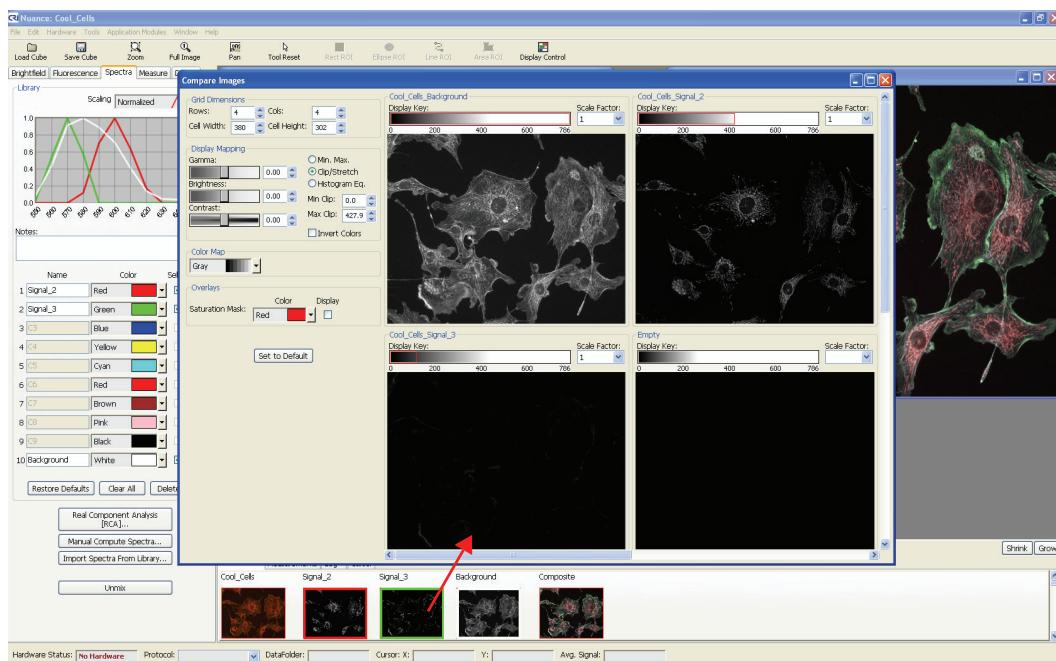
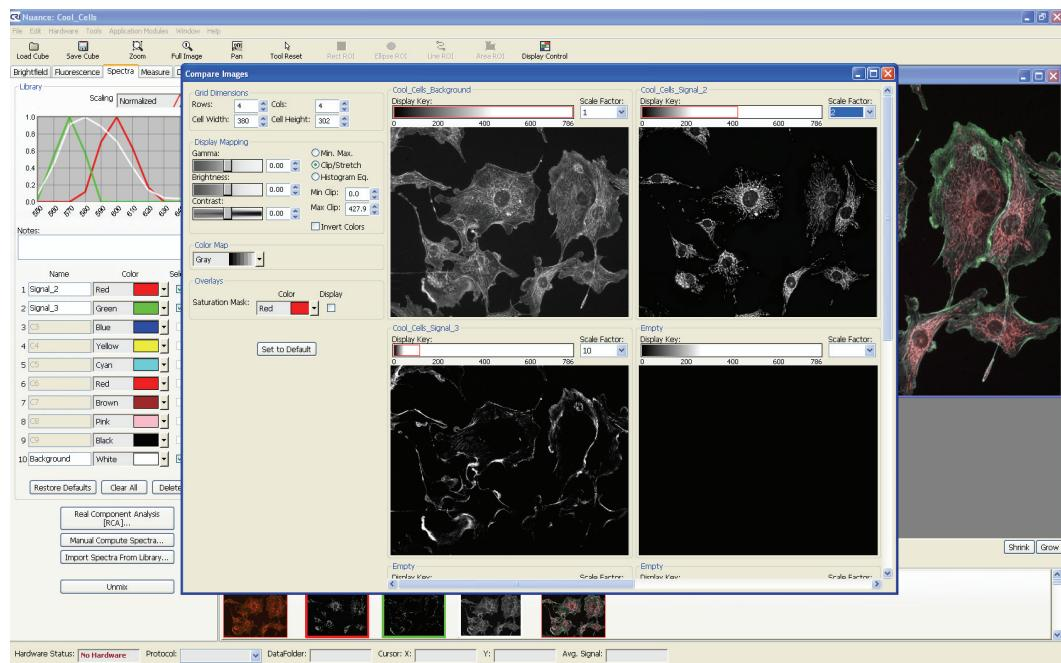

Figure 37. Compare Images
Figure 38. Compare Images using different scaling factors
2. Select **Tools > Compare Images**. The **Compare Images** dialog box opens (Figure 37).
5. All images are scaled based on the image with the brightest signal. As you can see in Figure 37, the **Display Key** for the upper-left image, which contains autofluorescence, has the brightest signal with 786 counts. The red outline in each image **Display Key** indicates the display range of the individual image.
- In Figure 37, the upper-right image is only half as bright (~ 400 counts) as the autofluorescence. Increasing its **Scale Factor** to 2x (see Figure 38) makes the image brighter (notice also the change in its **Display Key**).